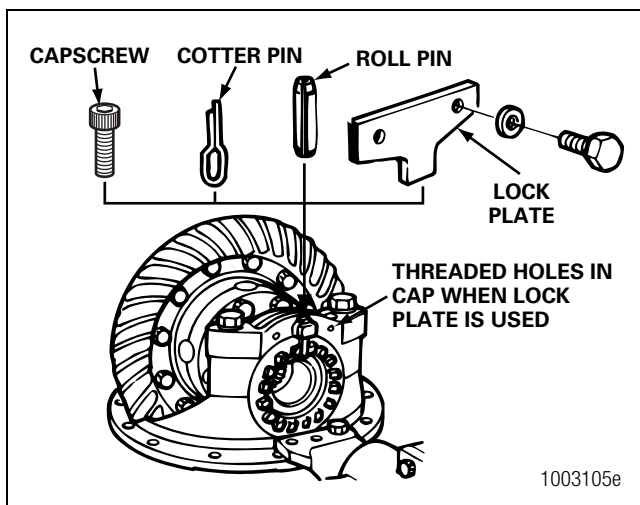

Figure 5.59
- A. Install capscrews between the lugs of the adjusting ring and through the boss of the bearing cap. New capscrews include a locking patch, which can only be used once. If you are installing used capscrews, apply Loctite® threadlocker to the capscrew threads before you install the capscrews. Figure 5.59.
- B. Install cotter pins between the lugs of the adjusting ring and through the boss of the bearing cap. Bend the two ends of the cotter pin around the boss. Figure 5.59.
- C. Use a drift and hammer to install the roll pin through the boss of the bearing cap until the roll pin is between the lugs of the adjusting ring. Figure 5.59.
- D. Install the lock plate onto the bearing cap so that the tab is between the lugs of the adjusting ring. Install the two capscrews and washers that hold the lock plate to the bearing cap. Tighten the capscrews to the correct torque value. Refer to Section 8. Figure 5.59.